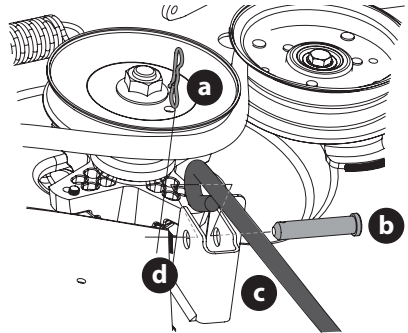

Fig. 41
- Remove the third bow-tie pin (a) from the clevis pin (b) that secures the front deck control rod (c) to the front deck lift bracket (d). Remove the clevis pin (b) (Fig. 41).